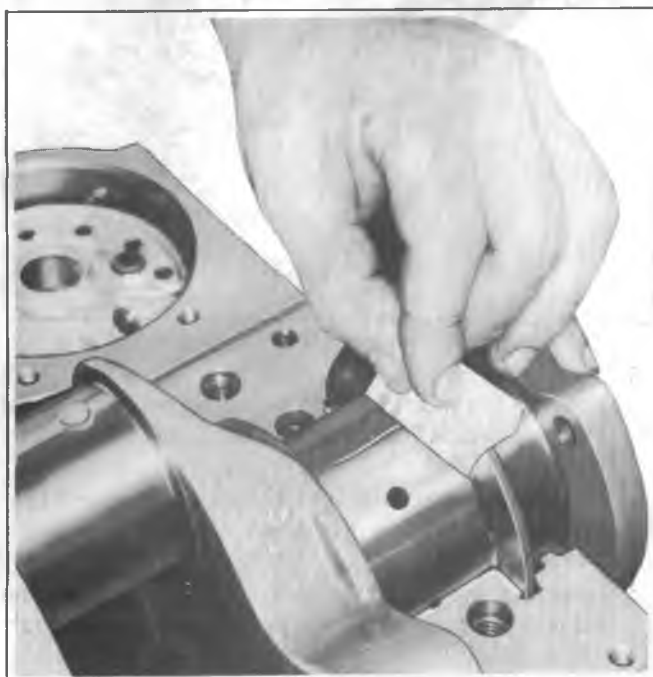

Fig. 6A5-45--Measuring Gaging Plastic
5. On the edge of gaging plastic envelope there is a graduated scale which is correlated in thousandths of an inch. Without removing the gaging plastic, measure its compressed width (at the widest point) with the graduations on the gaging plastic envelope (fig. 6A5-45).